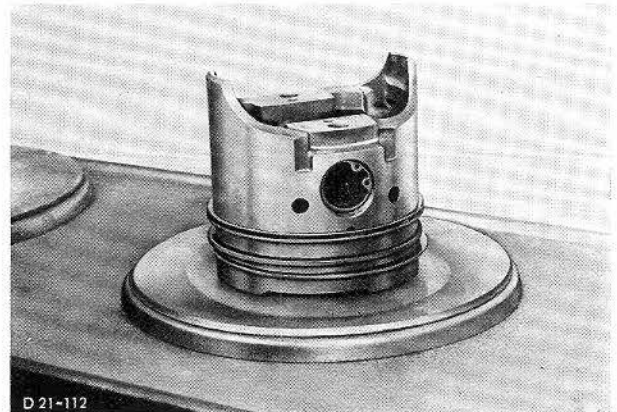

Fig. 100. Heat piston.
4. Heat piston on a hot plate, Fig. 100.